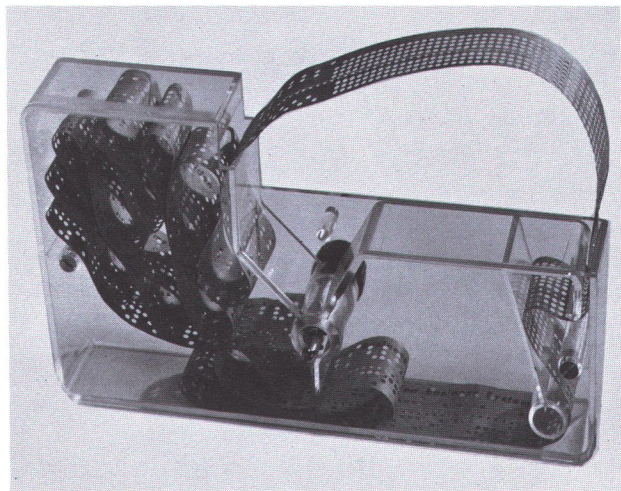

Figure 13.
5. Replace the cover and coverscrews. (See figure 13.)